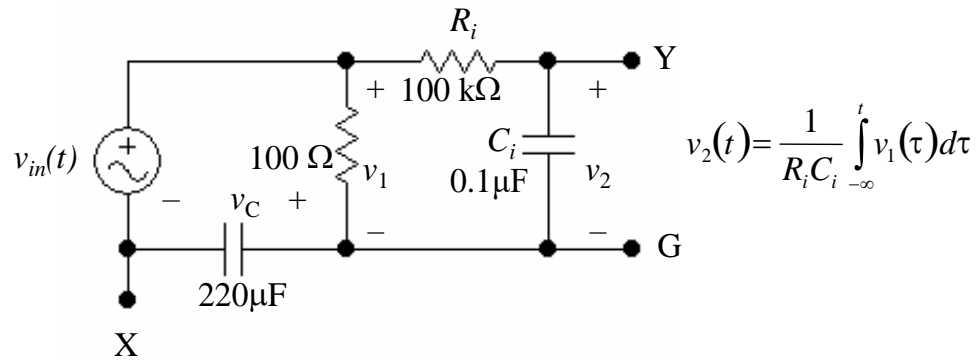

Figure 5.5 Integrator experiment setup.
- B. Setup the circuit of Fig. 5.5 for $v_{in}(t) = (10\sin 2\pi ft)$ volts, $f = 200$ Hz.